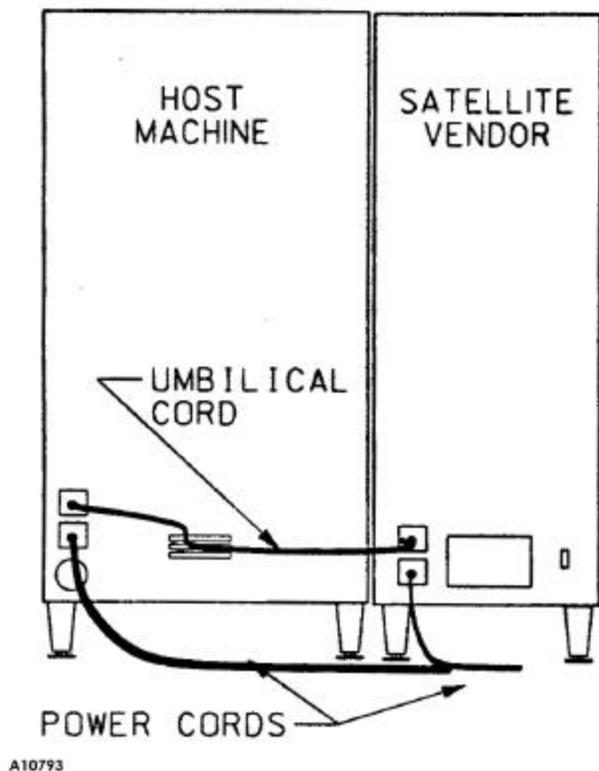

Figure 4. Connecting to the Host
3. Insert the umbilical harness from the Mini-Sandwich through the hole in the back of the host. Secure it with the attached flat bracket. See **Figure 4**.